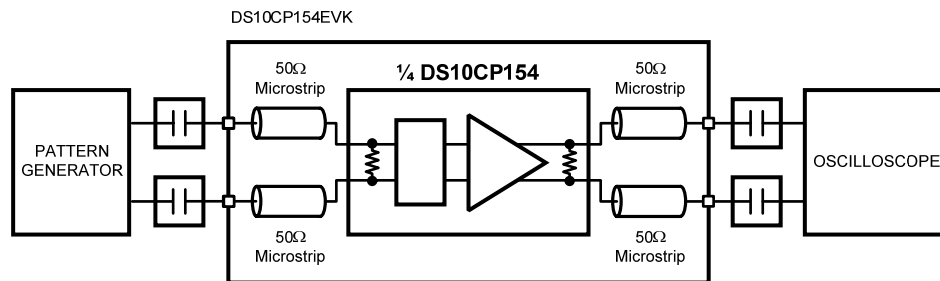

Figure 3. DS10CP154 Test Setup Example
This section provides recommended test setup procedure for the device evaluation. Figure 3 depicts a typical setup and instrumentation you may use for the device evaluation.
1. Configure the test setup as shown in Figure 3.